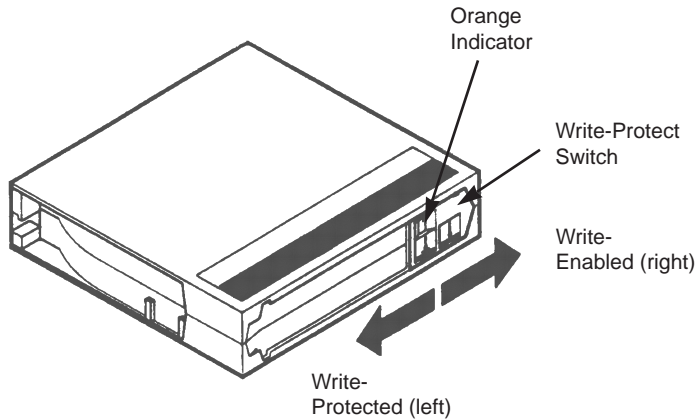

Figure 4 Tape Cartridge Write-Protect Switch
- The drive may be prevented from writing/recording on the media by enabling the write protect switch (Figure 4).